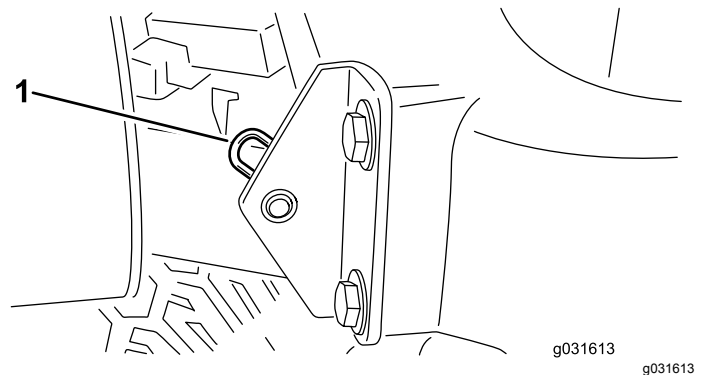

Figure 42
2. Remove the hairpin cotter securing the hood pivot to the mounting brackets (Figure 42).